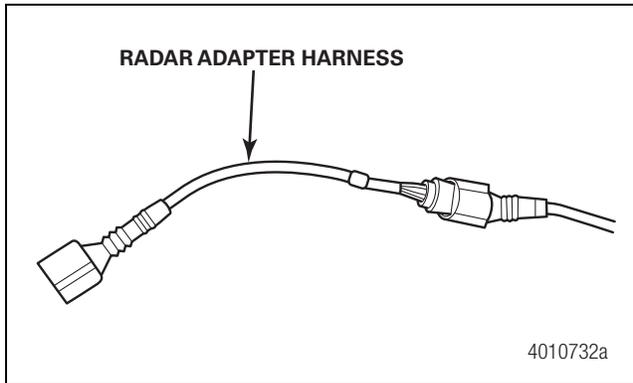

Figure 6
4. Install the radar adapter harness to the vehicle OEM radar connector by pushing on the adapter end until it snaps into the connector. Slide the rubber boot over the connector. Figure 6.